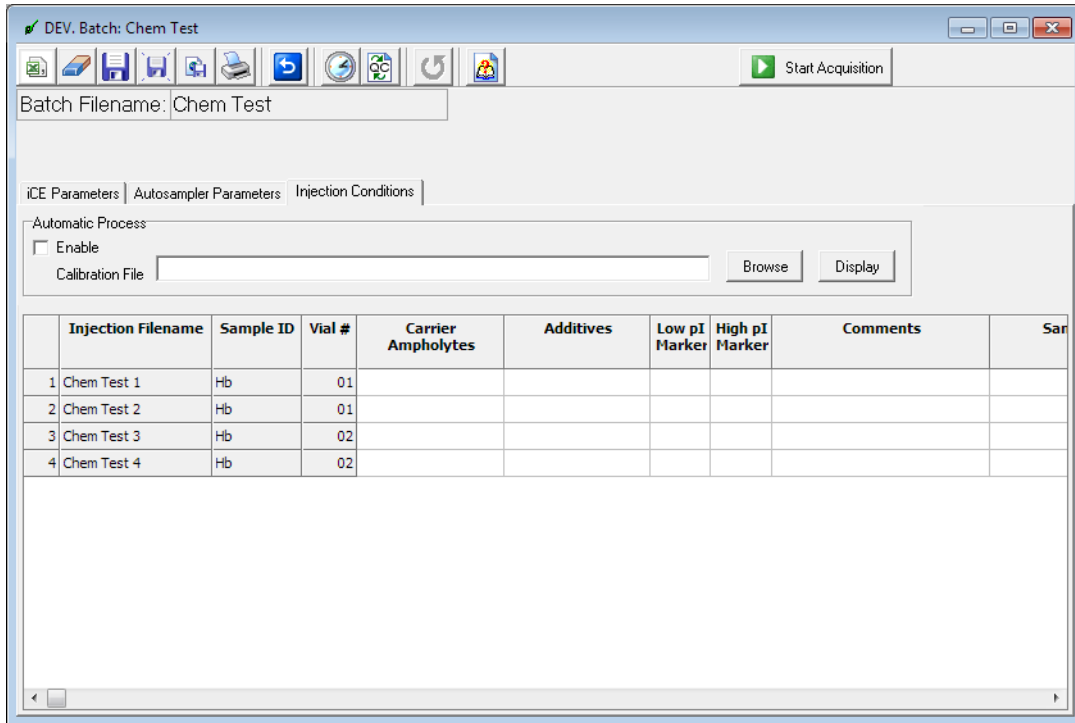

Figure 5-32: Injection Conditions tab.
20. Select the Injection Conditions tab (Figure 5-32). Use the scroll bar to view all parameters in the tab.